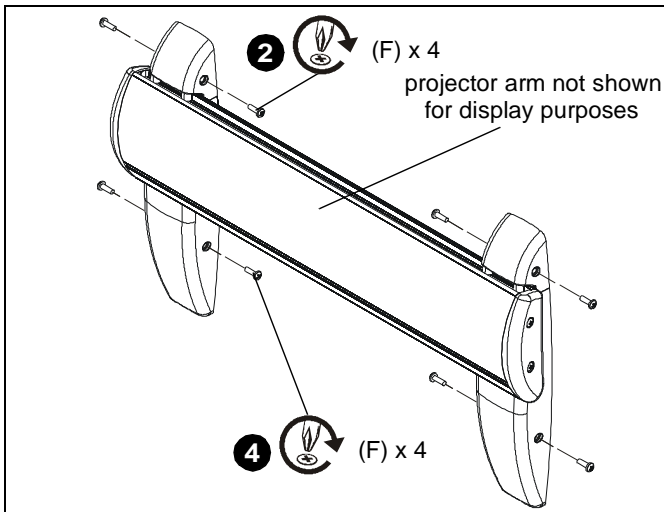

Figure 31
2. Secure wall bracket top covers (C) to wall bracket arms by installing four #8-32 x 1/2" Phillips pan machine screws (F) through holes in covers and wall bracket. (See Figure 31)
4. Secure wall bracket bottom covers (D) to wall bracket arms by installing four #8-32 x 1/2" Phillips pan machine screws (F) through holes in covers and wall bracket. (See Figure 31)